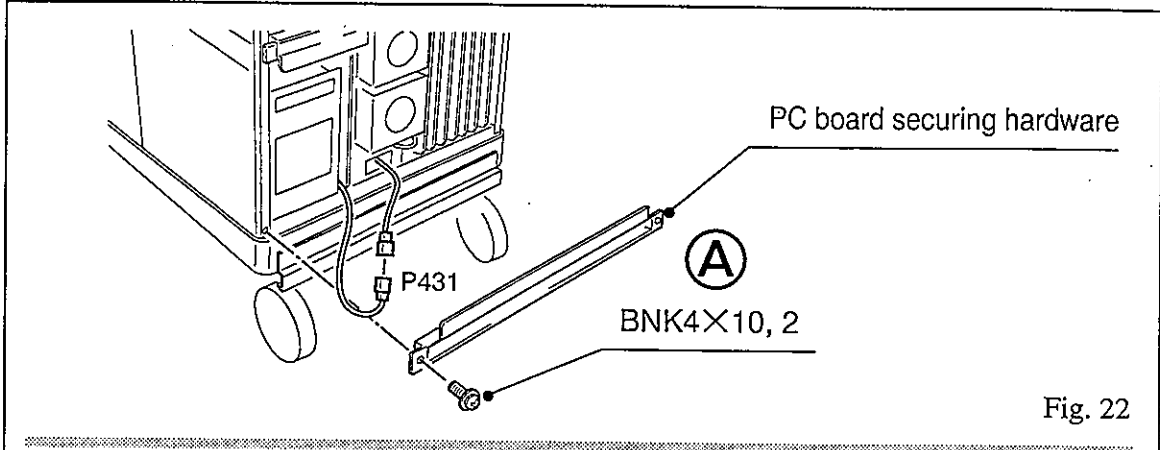

Fig. 22
- (5) Unfasten 2 screws each and remove PC board securing hardware. Then, unplug POWER switch cable on the back of equipment. ( A in fig. 22)